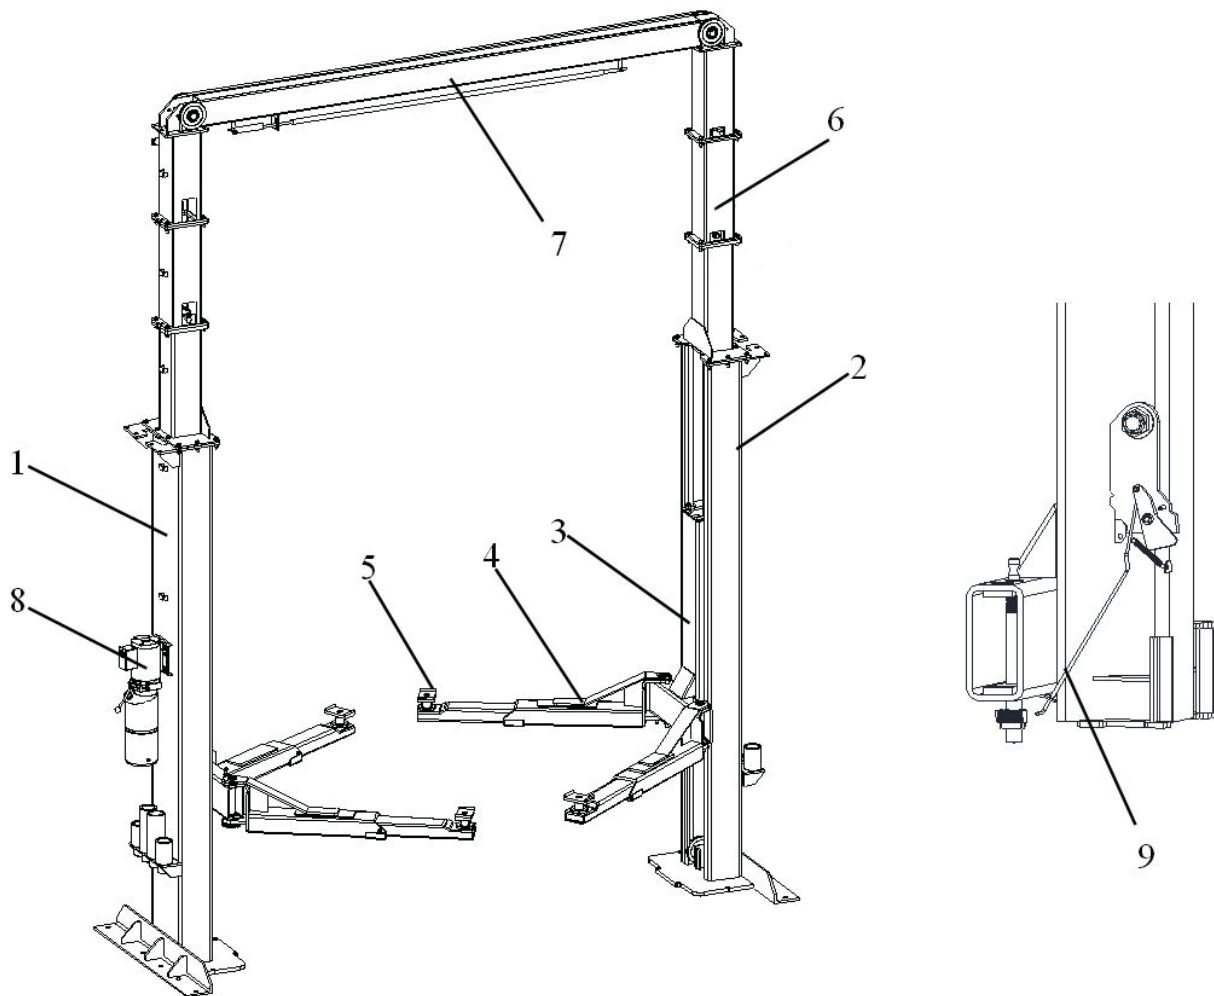

Figure 2 – Lift
## Lift Description (Ref. Figure 2)
As shown in figure 2, the lift is composed of two columns: power-side column (1) and off-side column (2), each equipped with a carriage (3) and a pair of lifting arms (4) with the adaptor (5) anchored to the ground by means of the column base.